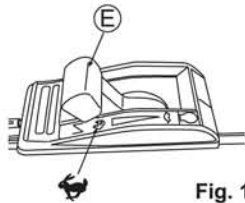

Fig. 16
2. Set Throttle lever (E) to "🐾" to start mowing. (See Fig. 16)